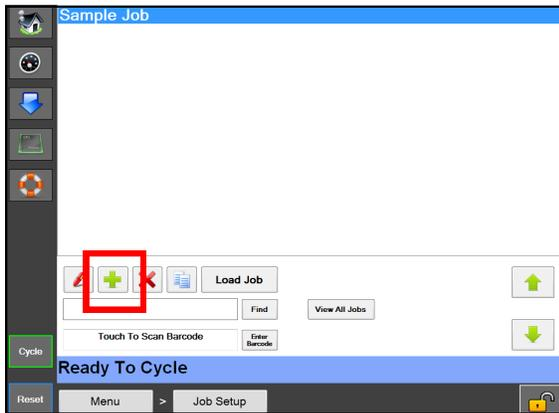

Figure 5-2A. Job Setup Screen.
2. From the Job Setup Screen, press the Green Plus (+) button. **Figure 5-2A.**